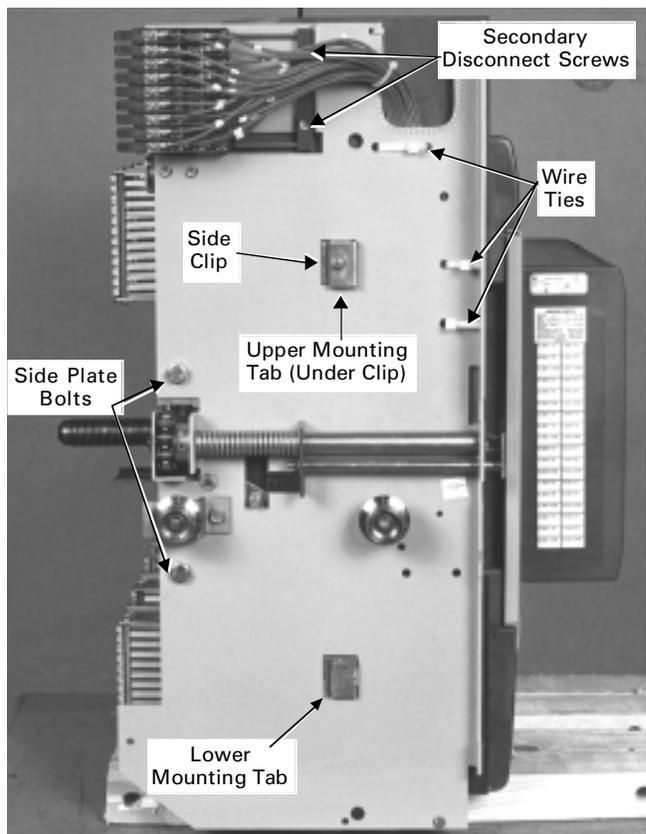

Figure 17. 2500–4000 A draw-out breaker side panel, showing the wire ties, bolts, and clip to be removed.
7. Remove the breaker from the draw-out substructure and place it on a suitable work surface. Place the breaker on supports so that the weight of the breaker is not supported by the side plates, as shown in Figure 17.
12. Remove the wire ties that hold the wire bundle connected from the secondary disconnect to the breaker side plate, shown in Figure 17. Remove the screw and clip, also shown in Figure 17. Remove the two 3/8-16 bolts directly above and below the chain drive sprocket.
13. Remove the two screws in the secondary disconnect mounting bar indicated in Figure 17, then slide the secondary disconnect and the two rods toward the front of the breaker and lift them out and away from the side plate.